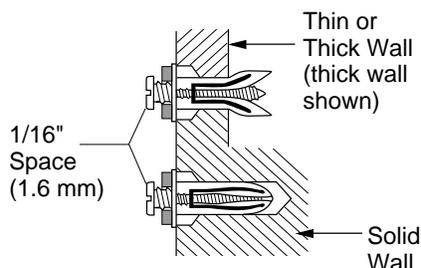

**Figure 8 - Popping Open Anchor Wings For Thin Walls**
4. For thin walls [1/2" (1.27 cm) or less], insert red key into wall anchor. Push red key to "pop" open anchor wings (see Figure 8). **IMPORTANT:** Do not hammer key! For thick walls [over 1/2" (1.27 cm) thick] or solid walls, do not pop open wings.